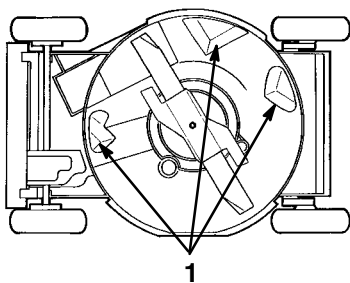

Figure 20
To ensure best performance, keep the underside of the lawn mower housing clean. Be especially careful to keep the kickers free of debris (Fig. 20).
3. Tip the lawn mower onto its left side (air filter up) (Fig. 20).